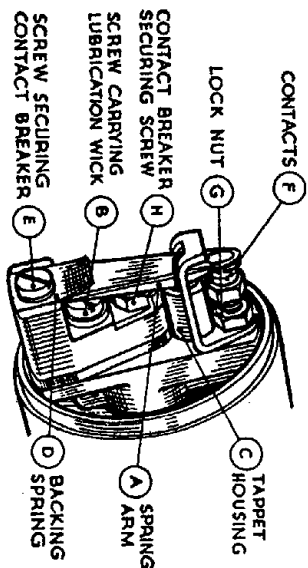

FIG. 51.—CONTACT-BREAKER COMPONENTS.
- (1) Move aside the blade retaining the contact-breaker cover, and remove the cover.
- (2) Remove the screw and spring washer *E* securing the spring blade *A* also the backing spring *D* (see Fig. 51).
- (3) Remove the screw *B* and the fibre bush.
- (4) Straighten the lock-washer *D* (Fig. 51) under the centre screw *H* retaining the contact-breaker, finally prise off the contact-breaker.
With the contact-breaker cover removed, turn the engine until the contact points *F* (Fig. 51) are fully open. Insert the gauge attached to the spanner for adjusting the points. If the gap is correct, i.e., 0.010–0.012 in., the gauge will be an easy sliding fit.
To reset the gap slacken the lock-nut *G* (Fig. 51), apply a magneto spanner to the adjustable contact and adjust as required.